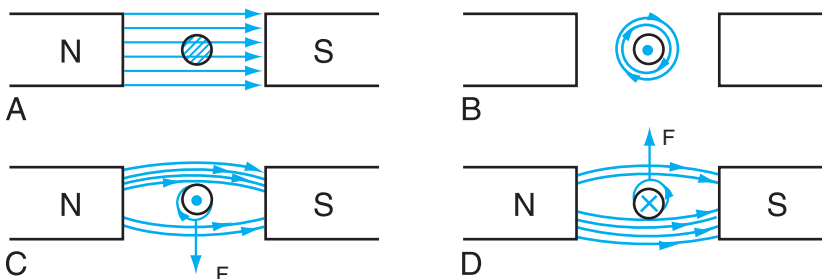

Figure 14-1 Force on a current-carrying conductor.
A simple conversion of electrical energy to mechanical energy is shown in Figure 14-1. Figure 14-1(A) shows a uniform magnetic field in which a conductor, carrying no current, is placed. In Figure 14-1(B), the field is removed and a current is created in the conductor due to an external voltage source. Notice the field about the conductor that is created by the current (electrons) passing beyond the page.
Figure 14-1(C) illustrates the resultant magnetic field that exists when the magnetic field is added. Above the conductor, the field produced by the current acts in an additive manner with the field created by the poles. Below the conductor, the conductor field acts in opposition to the pole field. The addition of the fields above the conductor, with the reduction of the field below the conductor, causes the conductor to move in a downward
direction. In Figure 14-1(D), the current (electron) direction in the conductor is reversed, going into the page, so that the lines are additive below the conductor and in opposition above the conductor. In this case, the conductor direction is upward. The conductor movement shown in Figure 14-1 is the basic principle that governs the action of a motor. Before this principle can be applied to an actual motor, a rule must be formulated so that the direction of conductor motion can be determined when the direction of the current (electron movement) is known.